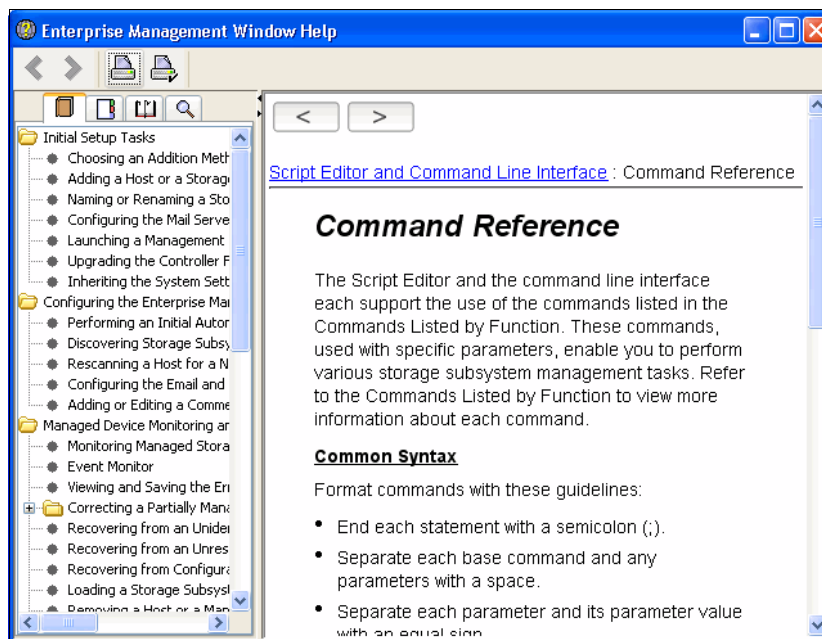

Figure 17-4 Command reference
4. The Script Editor contains an online help that describes the use of each of the available commands. Click **Help** → **Command Reference** to display the online help (Figure 17-4) or **Help** → **Overview** for help on using the Script Editor itself.